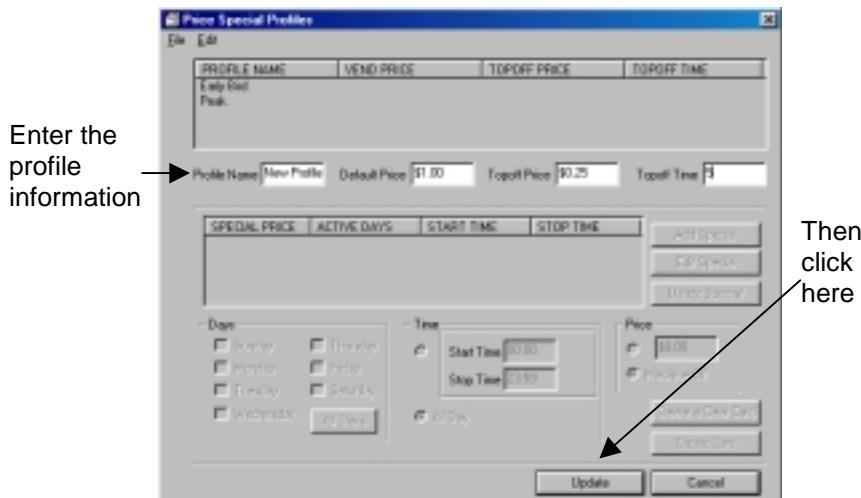

Figure 8.17 Entering the Profile Information
2. Enter a profile name, the default price (price when no special is in effect), Top Off price and time (for dryers only)(Figure 8.17).
3. Click the Update button (Figure 8.17).